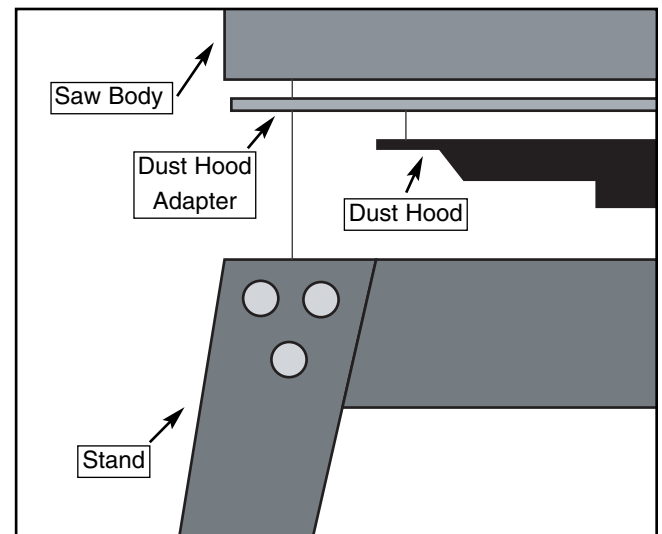

Figure 11. Attaching the stand to the saw base.
7. Align the holes at the four corners. Place the assembled stand upside down on the table saw body, and line up its mounting holes. Make certain the side of the stand with the "Z Series" label, if applicable, is on the front side of the machine (the side with the Grizzly label and angle scale). Secure with M8-1.25 x 19 hex bolts, 8MM flat washers and M8-1.25 hex nuts, with the dust port sandwiched between as shown in **Figure 11**.